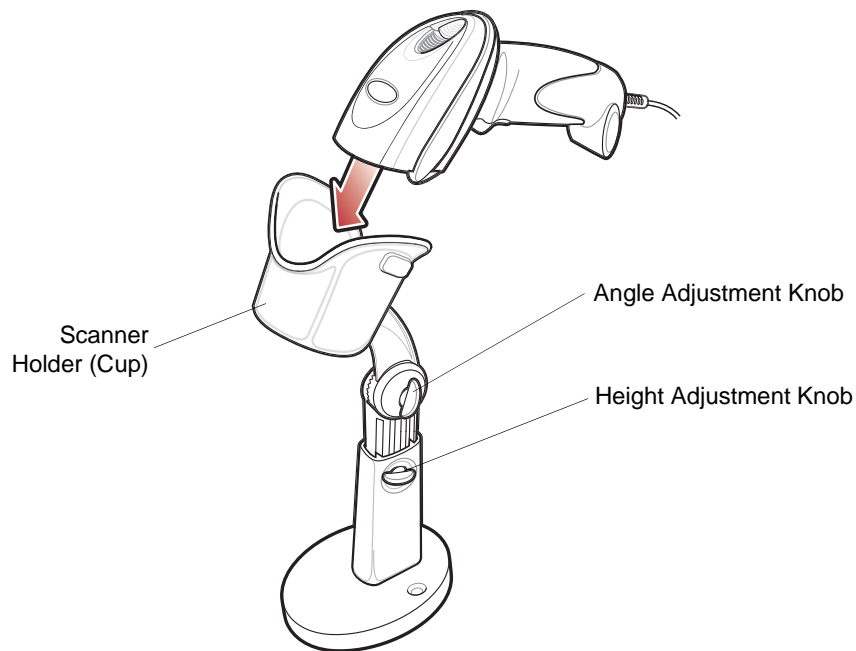

Figure 2-12 *Inserting the Digital Imager Scanner in the Intellistand*
2. Insert the digital imager scanner in the Intellistand by placing the front of the digital imager scanner into the stand's "cup" (see Figure 2-12).